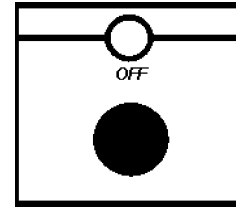

Figure 34. OFF Status LED
5. Verify the "Off" status LED (Figure 34) on the ICS-100 display is illuminated.